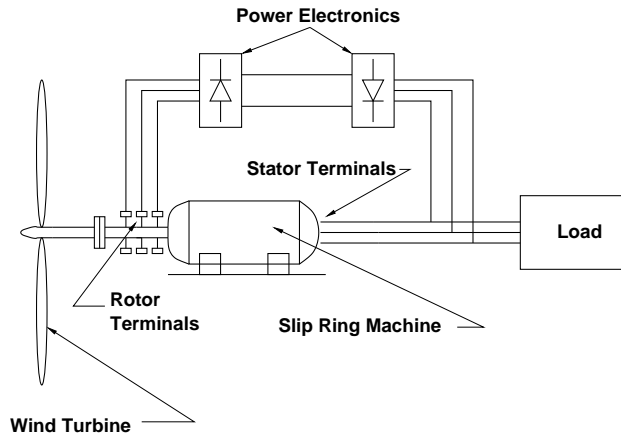

Figure 1: Wind Turbine Generator Setup
**Problem 4:** This is about a three-phase wound-rotor induction generator that might be used as a wind turbine generator. The setup is shown in Figure 1. The stator and rotor windings are identical, except for the numbers of turns. It has characteristics as shown here: